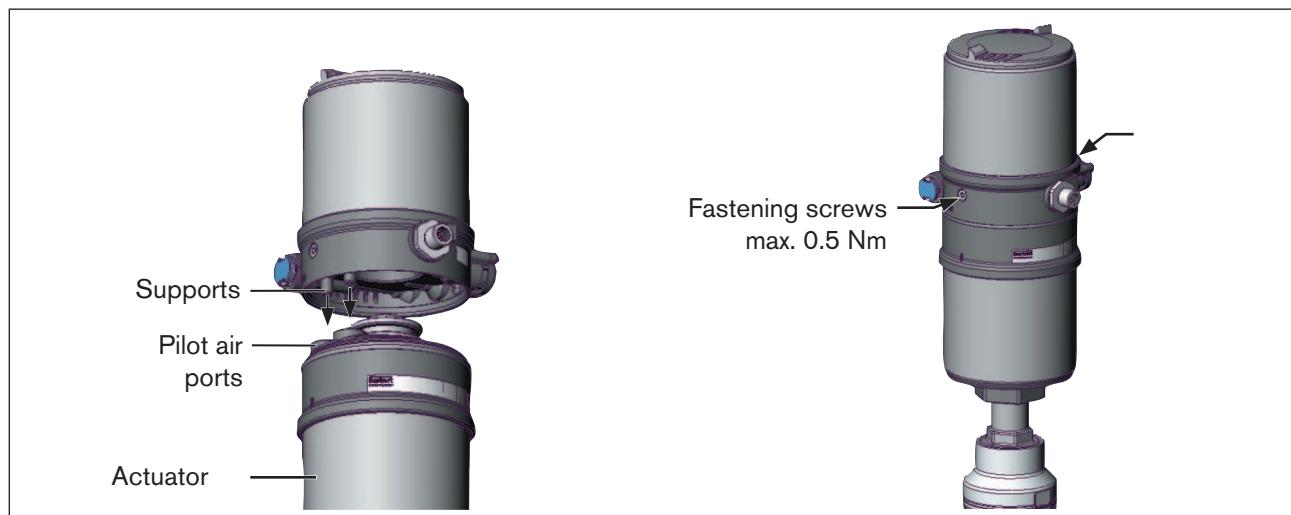

Figure 18: Installation of positioner, series 2103, 2300 and 2301
2. the supports of the positioner can be inserted into the pilot air ports of the actuator (see also "Figure 18").